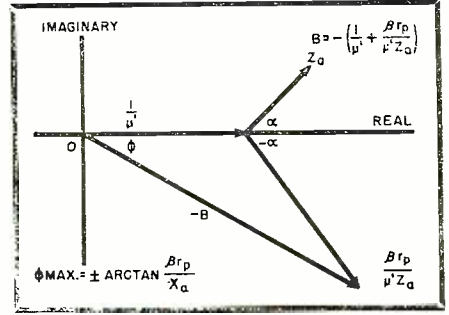

Fig. 4. Vector diagram showing requirements for oscillation.
for the purpose of drawing the vector diagram of  $B$ . To draw this diagram, it is necessary to select the load impedance as inductive or capacitive. If it is inductive, the vector representing  $Z_a$  will be in the first quadrant and if it is capacitive the vector will be in the fourth quadrant. This should be remembered since the vector diagram in Fig. 4 only considers  $Z_a$  to be inductive. To construct the vector  $-B$  the vector  $1/\mu'$  is drawn along the abscissa to the right and at the termination of  $1/\mu'$  the vector  $\beta r_p/\mu' Z_a$  is added, thereby giving  $-B$  as the vector sum of the quantities within the parenthesis in Eq. (3). The final result may be summarized by the expression: